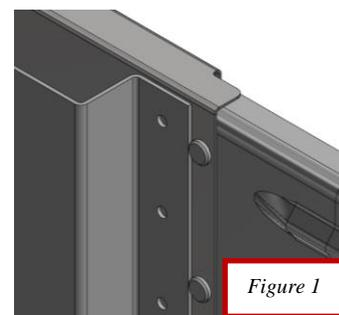
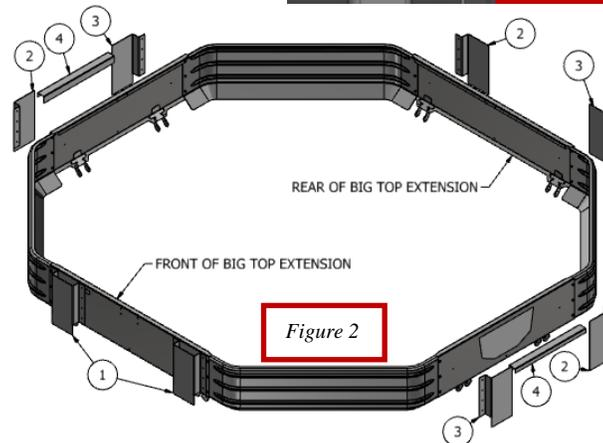

Figure 1
Figure 2
Note: Ensure the Big Top Extension Kit has been properly installed before installing the Harvest Pro-Tech cover. There are 3 different brackets used to mount the skirting around the Big Top extension along with a bracket to properly position the plastic hoods. **Note:** Crary has two revisions to this Big Top kit. The newest kit has plastic corners that are pinned on and the older kit has rubber corners that are bolted on. When mounting the brackets on the newer Big Top, place the bracket on the steel extension panel and slide it over until it touches the pins that hold the plastic corners on. See Figure 1. For the older Big Top kit, remove the factory bolts and mount the brackets using the factory holes. See Figure 3. There are 2 front skirting brackets (1), they are the ones with the double bolt flange. These brackets will be mounted onto the front Big Top steel panel above the cab. The other two brackets (2 & 3) only have one mounting flange and should be mounted so the bracket hangs down past the factory extension and towards the center of the steel panels. See figure 2. Using the holes on the bracket as pilot holes, drill using a 5/16" drill bit through the Big Top Extension (Figure 3). Secure the brackets to the extension panels with 5/16" x 1" hex bolts and serrated nuts.